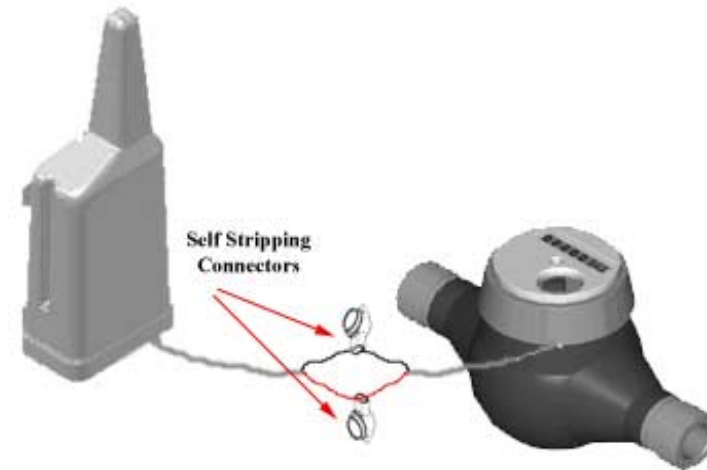

Figure 4: Wiring
2. Polarity: if a 'Passive Pulse' type meter is connected, there is no polarity so the wires can be connected in any order, if an 'Active Pulse' type meter is connected, there is a polarity and the wires have to be connected in the following order: Red wire to the POSITIVE (+) poll and the Black wire to the NEGATIVE (-) poll, (see figure 4).